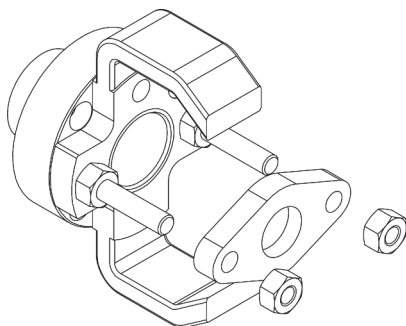

Figure 3
- Remove the gland flange (Fig. 3).